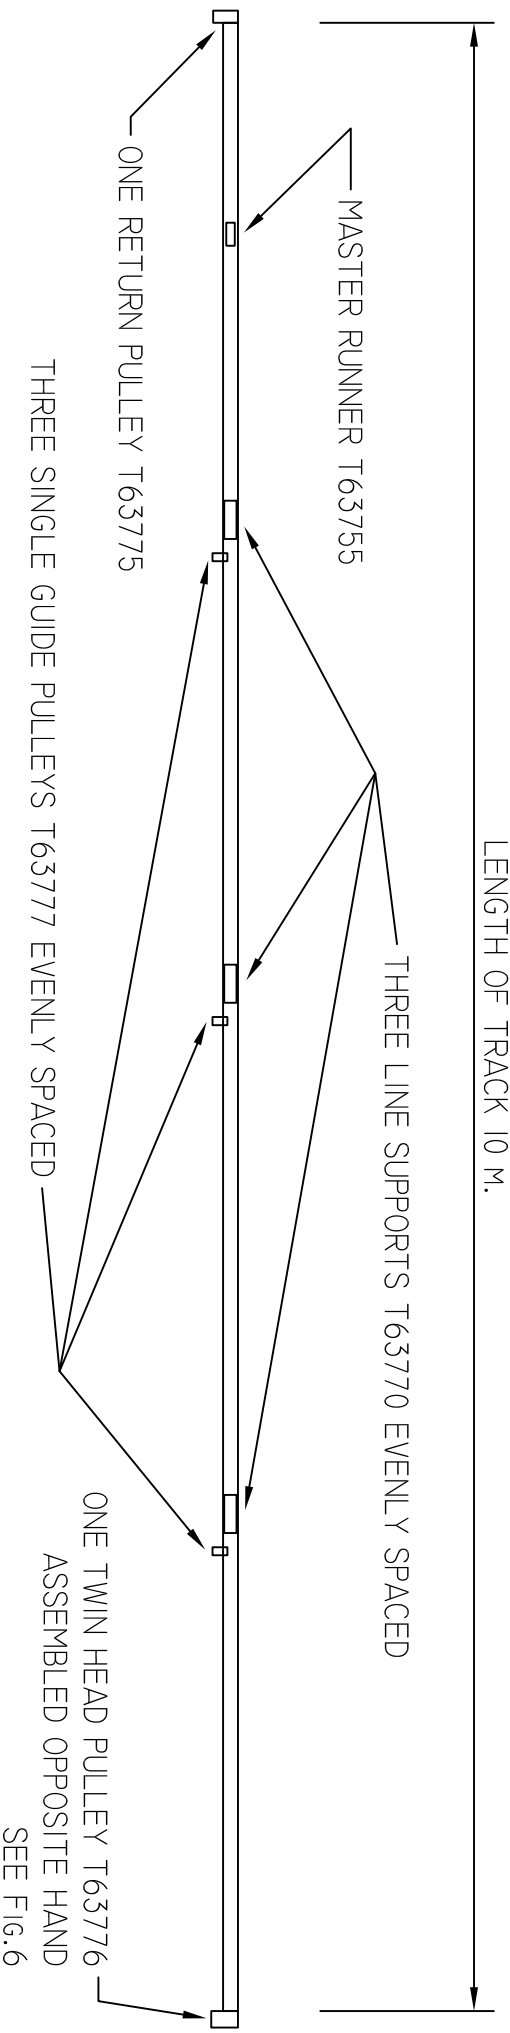

FIG. 4 ~ LAYOUT DIAGRAM FOR SINGLE WIPE LINE OPERATION ~ PLAN VIEW.
Insert Master Runners as required from an open end of the tracking and position as shown in figs. 4 & 5. It is advisable to do this before fitting end pulleys.
The Return Pulley is required at the end of the track remote from the Twin Head Pulley, positioned as shown in figs. 4 & 5. The line fitted to the Master Runner will be offset from the centre line of the track, either on the left or on the right, as shown in fig. 8. Refer to fig. 7 for correct fitting of the Return Pulley to the end of track as this must be compatible with the line attached to the Master Runner when it reaches this end of the track.
The Single Guide Pulley is required to prevent excessive sagging of the return line between the ends of the tracking and should be positioned at approximately 2.5m. spacing as shown in figs. 4 & 5. Refer to fig. 7 for correct fitting of single guide pulley to the side of track.
The Line Support is required to prevent excessive sagging of the hauling line between the ends of the tracking and the master runner, but it also retracts to allow the master runner to pass by. Line Supports should be positioned at approximately 2.5m. spacing as shown in figs. 4 & 5. Refer to fig. 9 for correct fitting of the Line Support to the support tube of the track.
1. With all the pulleys in place as in figs. 4 to 7, place in position the track drive or weighted pulley or floor pulley which is described in section 9.